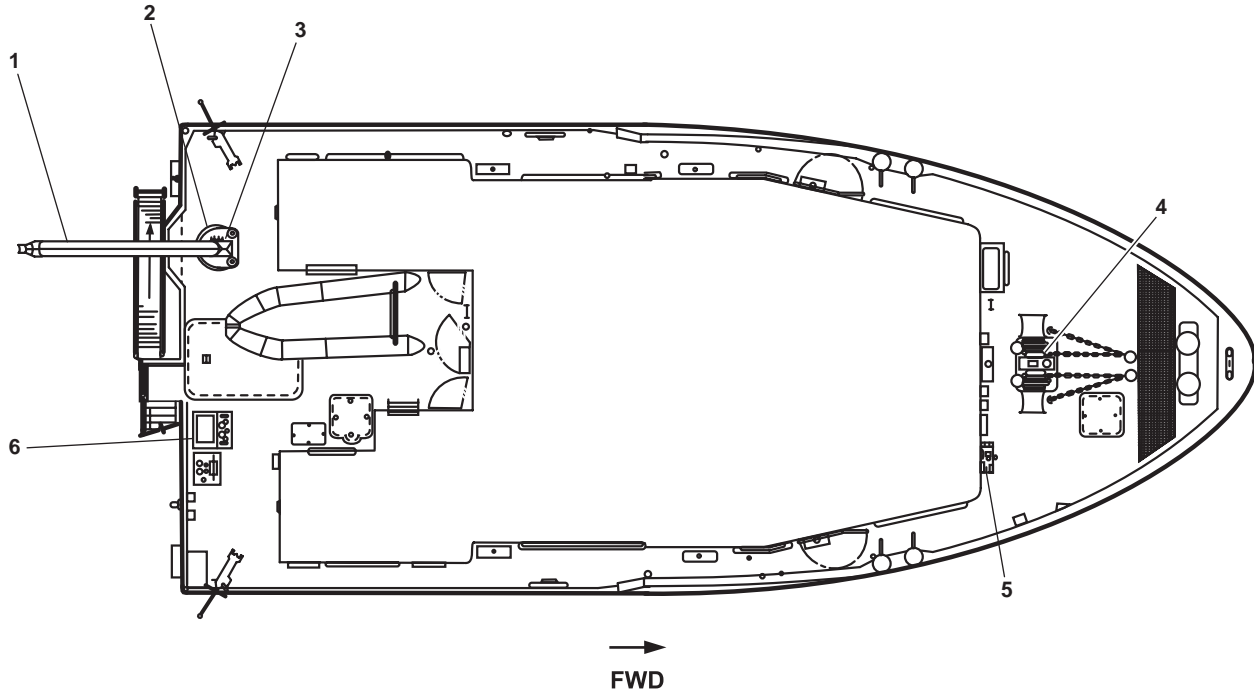

Figure 2. Deck Machinery and Hydraulic System Components, 01 Level
1. Deck Crane (figure 2, item 1). An extendable boom deck crane is used to launch and retrieve the workboat and to handle towing components.
2. Deck Crane Control Station (figure 2, item 2). These controls allow the deck crane to raise and lower the boom, swing the boom, extend and retract the boom, and raise and lower the block.
3. Load Moment Indicator (figure 2, item 3). The load moment indicator displays the load applied to the block and notifies the operator of an overload condition.
4. Anchor Windlass (figure 2, item 4). The anchor windlass is used to raise and lower the bow anchors. It is also equipped with two gypsies for handling towing and mooring lines forward.
5. Anchor Windlass Control Station (figure 2, item 5). This station contains controls for regulating the speed, power, and direction of anchor windlass rotation.
6. Towing Machine Operator Control Station (figure 2, item 6). This is the primary operator control station for the two towing machines. It contains controls for regulating winch direction and tension as well as gauges to indicate towing machine condition (e.g., line tension, line remaining on drum, etc.).